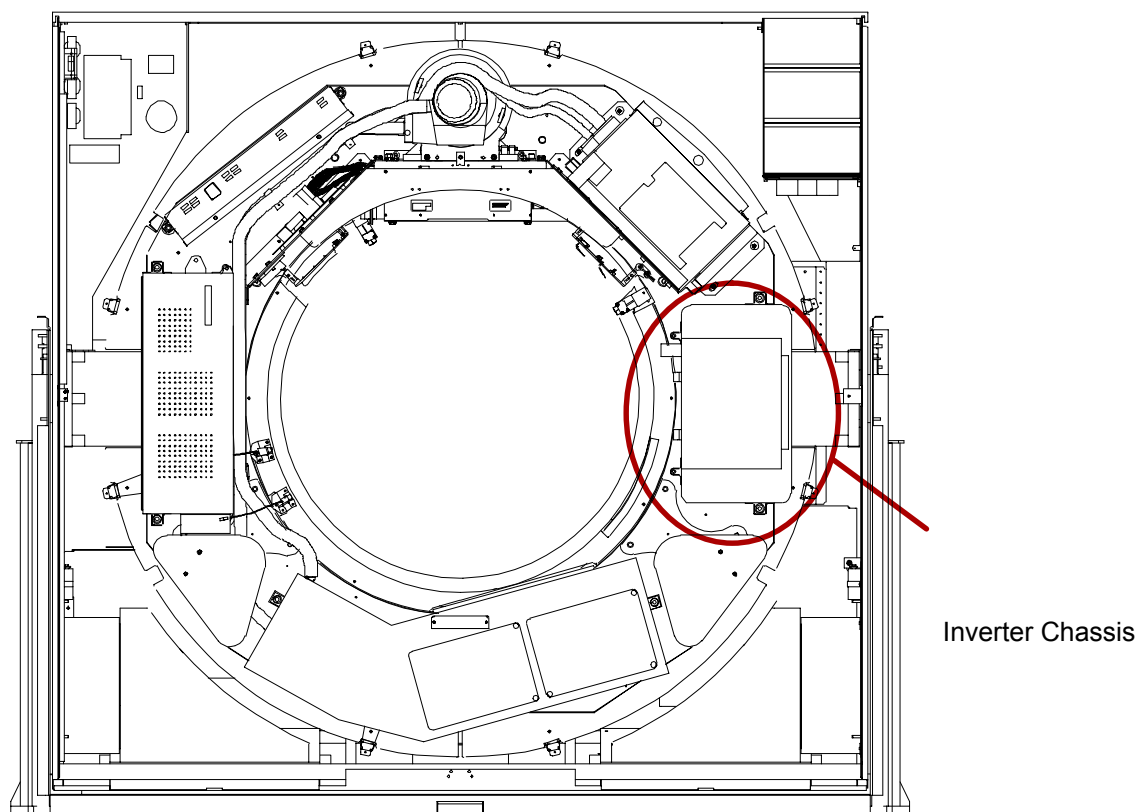

FIGURE 268 SCAN FRAME PINNED WITH TUBE AT 12:00
3. Rotate the scan frame counterclockwise by hand until the x-ray tube is at the 12:00 position. Lock the Scan frame with the locking pin. See Figure 268.